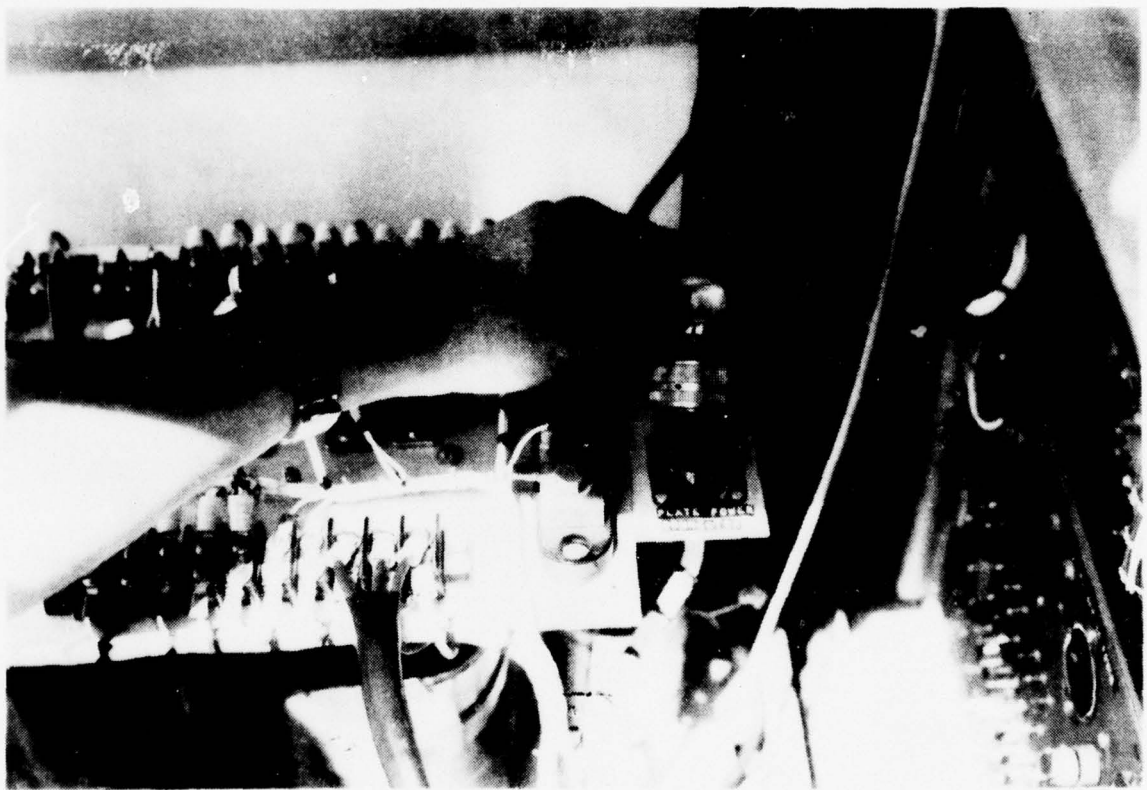

Figure 6. Plate Circuit Connector and Cable
2. Plate circuit connector (figure 6).